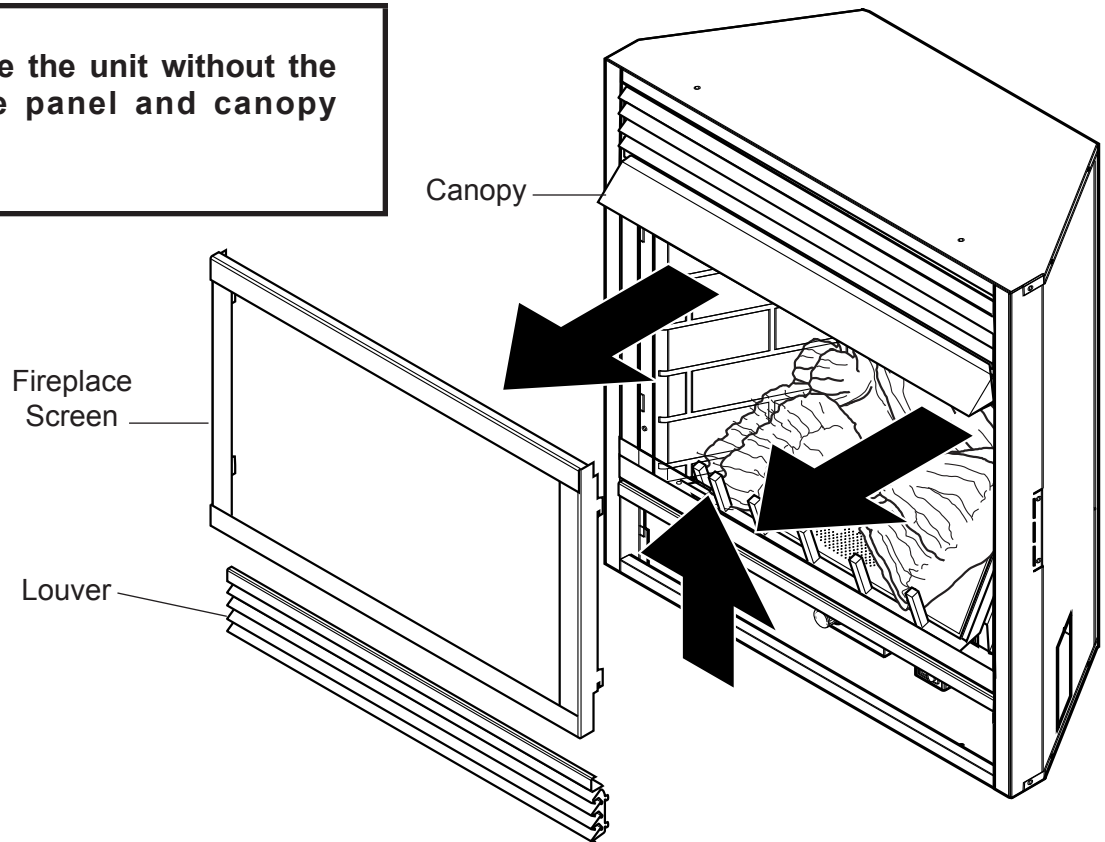

Figure 14 - Removing Fireplace Screen Frame Panel
3. Remove fireplace screen (See *Figure 14, page 14*) and logs.
1. Remove bottom louver. *See Figure 14.*
2. Removing fireplace screen frame panel by pushing screen frame panel up and out. *See Figure 14.*
Ensure that minimum clearances shown in *Figures 14 and 15* are maintained. Left and right clearances are determined when facing the front of the firebox.